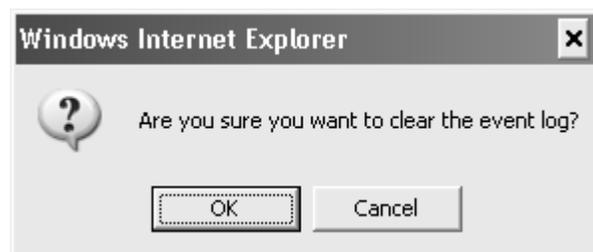

Figure 88: Confirm Clear Event Log
3. The confirm clear event log dialog will be displayed (Figure 88).